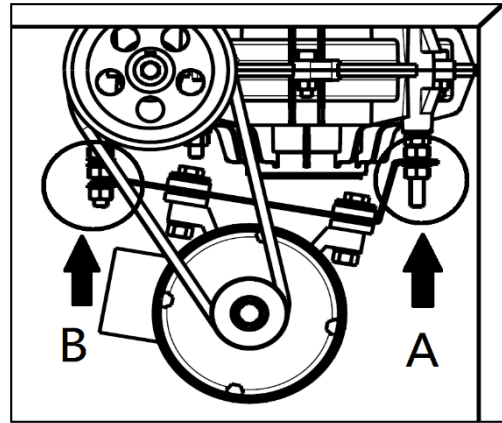

FIG26
- Periodically check and adjust the tension force of the transmission belt and properly adjust the adjustable nuts at the A and B position to adjust the tension of the belt. (Fig26)